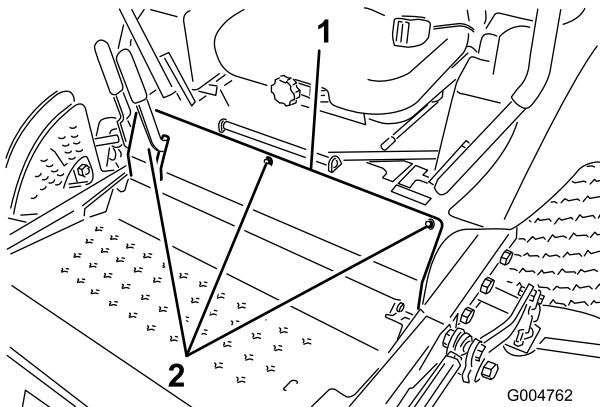

Figure 7
12. Remove the 3 front cover mounting screws and remove the cover (Figure 7).